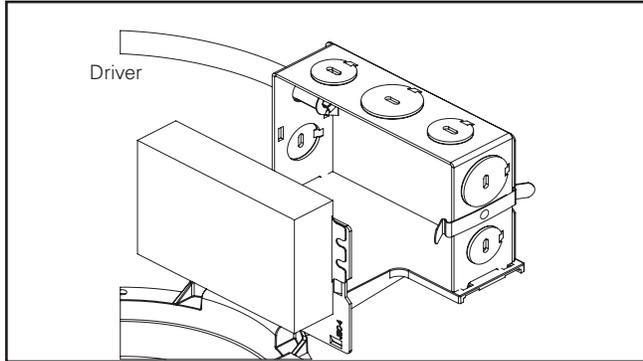

Figure 43.
4. Connect supply lead wires to junction box lead wires (line, neutral and ground) in the fixture using the provided connectors. (Figure 43). Be careful not to leave any bare conductors outside of the connectors.
2. Remove the driver and junction box cover assembly (Figure 43).